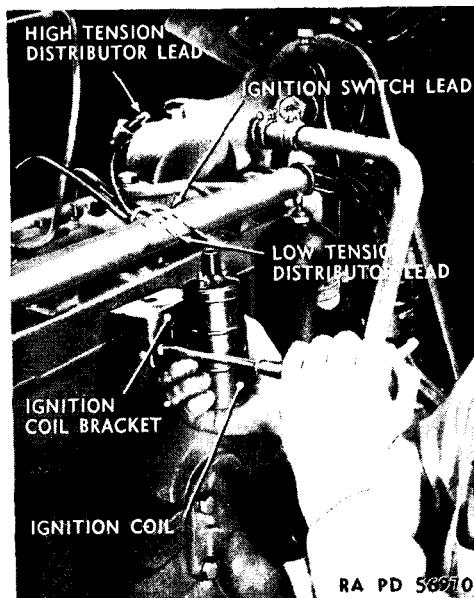

Figure 65—Ignition Coil Removal
(1) **REMOVE COIL** (fig. 65). Disconnect center snap-on lead, and leads from distributor and ignition switch, and unscrew bolts, nuts, and lock washers holding ignition coil collar to bracket. Remove coil.